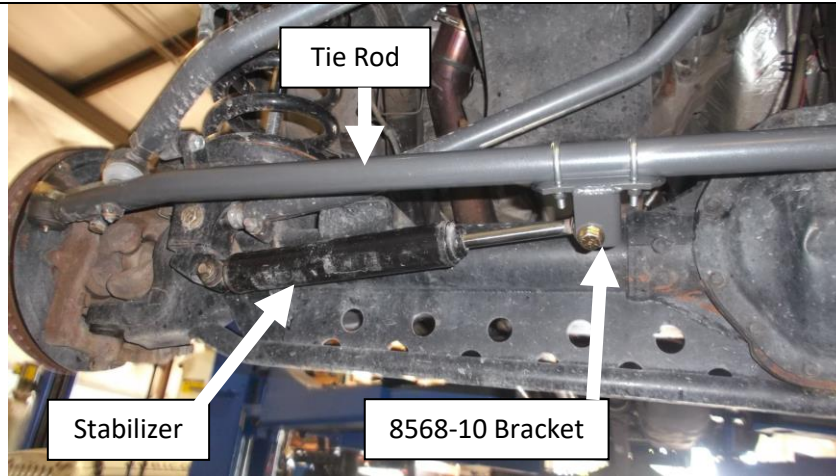

Figure 14. Steering Stabilizer Shown Mounted to 8568-10 Bracket
26. With the stabilizer installed into the 8568-10 bracket, position the bracket onto the tie rod so there is no bind in the stabilizer bushings with the steering pointed straight. Make sure the bracket sits flat on the tie rod and install u-bolts. Use a washer under the nylock nuts and torque to 15 lb-ft. Do not overtorque! See **Figure 14**.